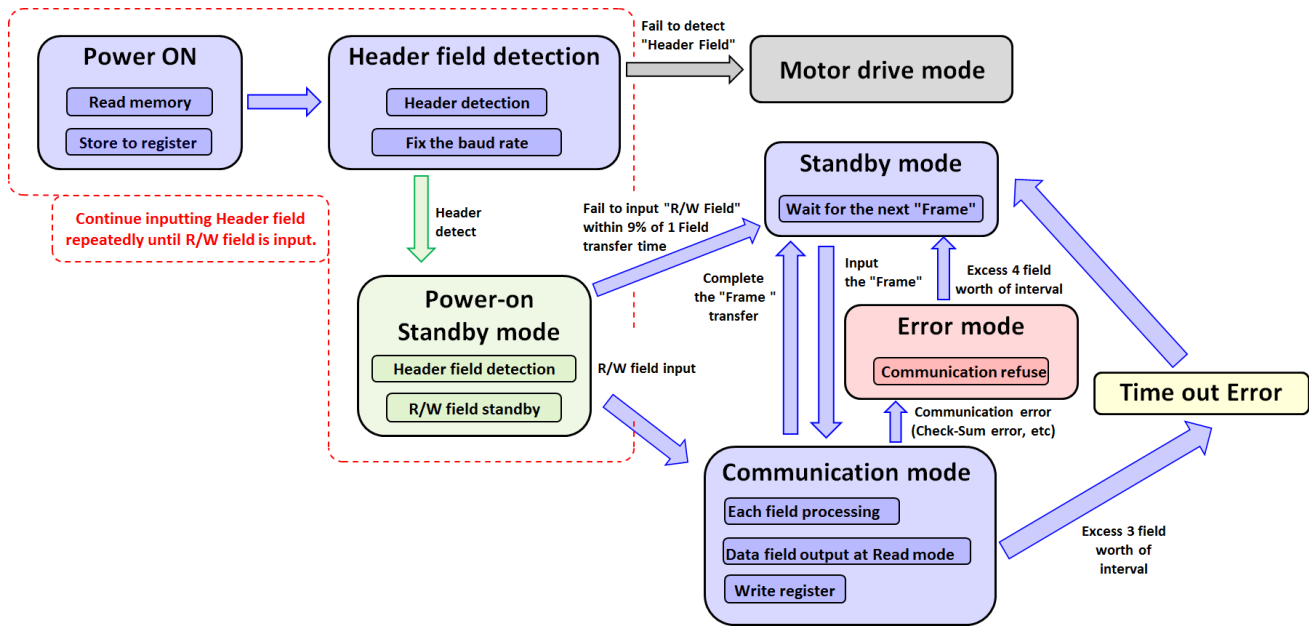

Figure 3. State Transition Diagram of the Communication
3. After entering "Power-on Standby" mode, if the Slave detects "Read/Write Field" within 9% of 1 field transfer time, it goes to "Communication" mode. If the Slave doesn't detect it, it goes to "Standby" mode and waits for a next Frame. Refer Figure 3. State transition diagram of the communication.
Figure 3 shows the state transition diagram of SWAN.